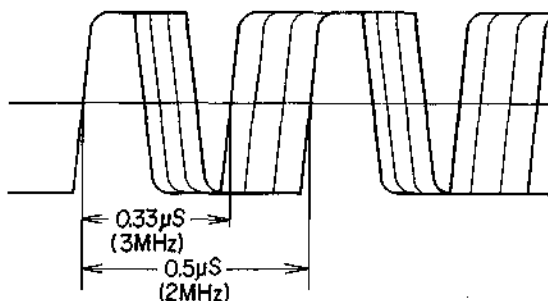

Fig. 4
- Adjust VR-6 and VR-7 so that the frequency deviation is as shown in Fig. 4.